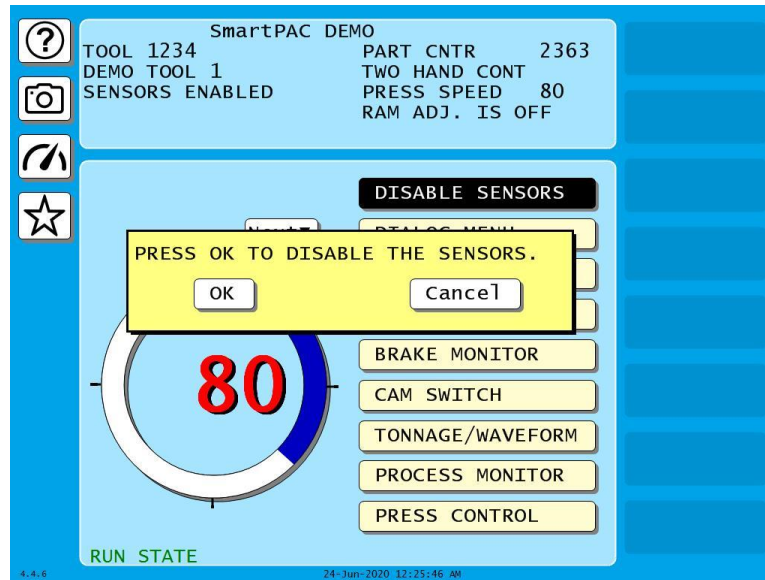

Figure 6-41. Disable Sensors Confirmation Message
- If you are disabling sensors, the confirmation window shown in Figure 6-41 displays.